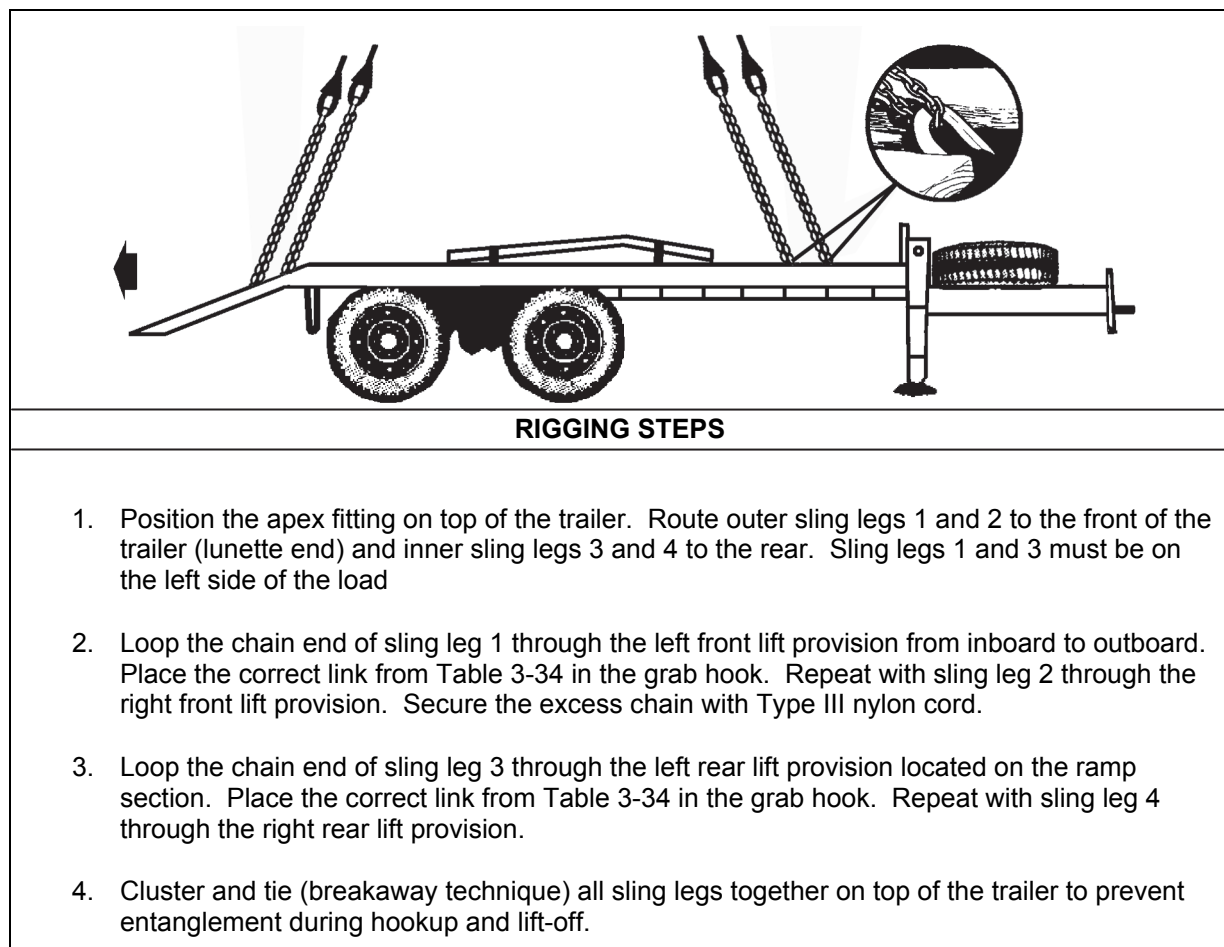

Figure 3-34. Small Emplacement Excavator Transporter)
- **Rigging.** Rig the load according to the steps in Figure 3-34.